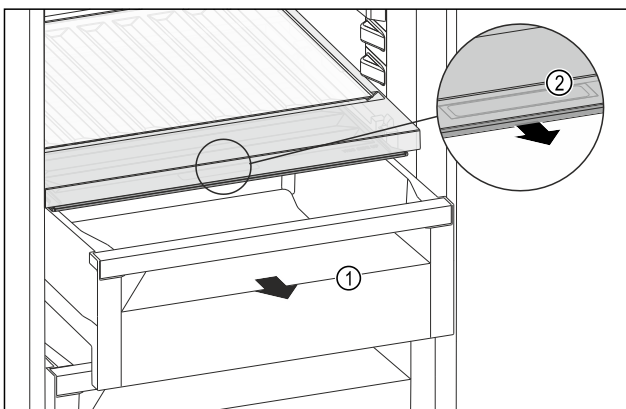

Fig. 115
- ▶ Pull out the drawer Fig. 115 (1).
- ▶ Grip the handle recess Fig. 115 (2) on the lid while pulling the lid forward at the same time.